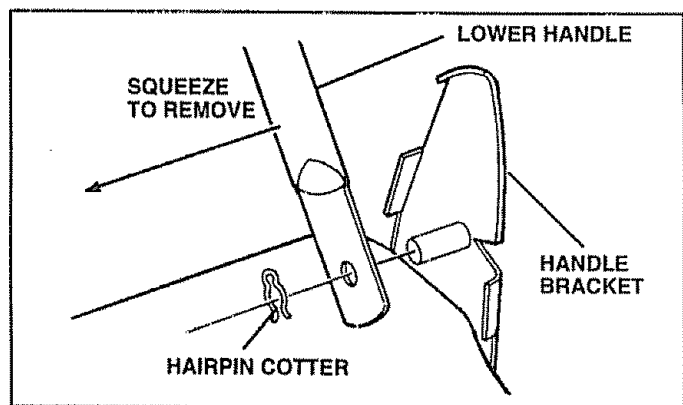

FIG. 18
- Disconnect the lower handle from the handle brackets (See Fig. 18).